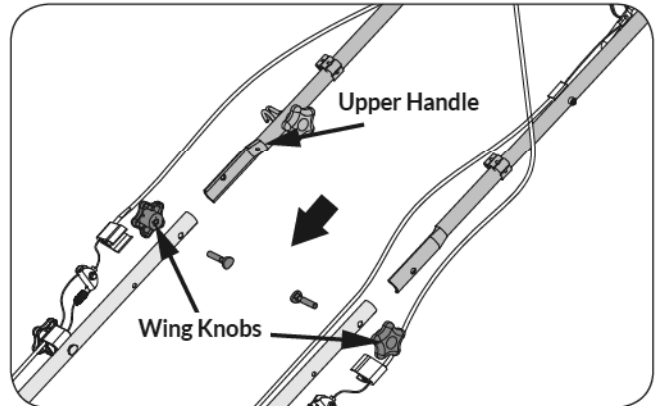

Figure 3
2. Lift the upper handle, align the holes in the upper handle and the holes in the lower connecting handlebars, then secure and tighten by using the removed bolts and wing knobs in the first step. (See **Figure 3**)